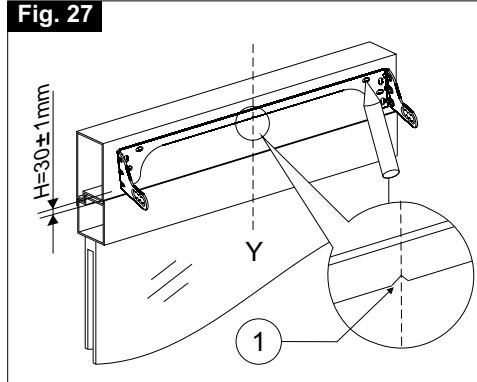

Fig. 28
- 4) **Fig. 28/29-** With a suitable drill, bore four holes of $\varnothing 3.7$ mm on the frame and tighten the bracket with the suitable screws;